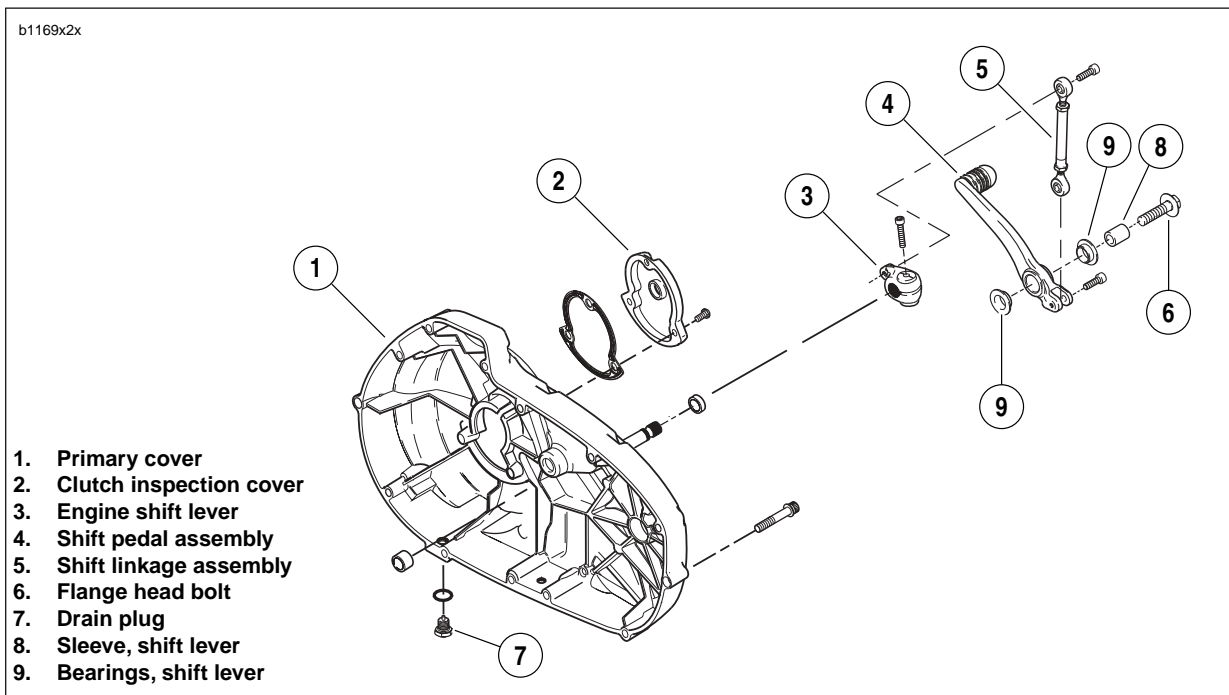
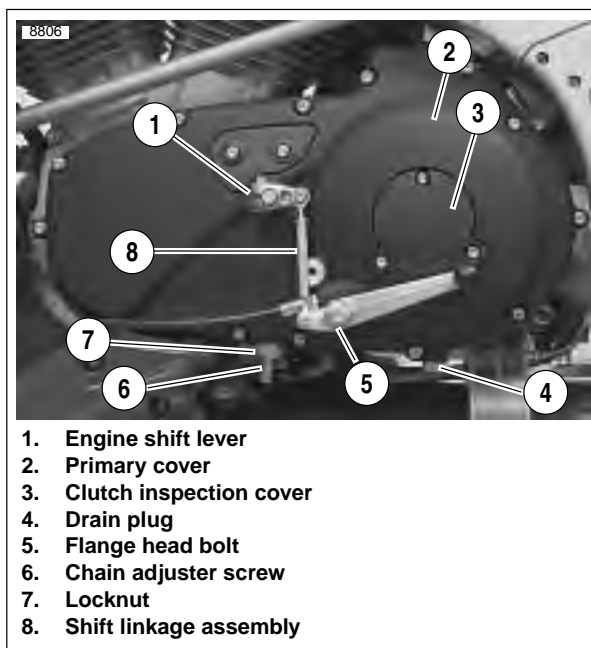

Figure 2-96. Primary Cover and Shifter Assembly
Figure 2-99. Installing Shift Linkage
13. See Figure 2-96. Remove clutch inspection cover (2).
4. See Figure 2-99. Install rubber washer and engine shift lever assembly (1).
5. See Figure 2-96. Install (9) bearings and (8) sleeve into the shift lever.
6. After applying LOCTITE 271 (red), install flange bolt (5) and shift pedal to primary cover, and tighten to 22-24 ft-lbs (30-32.5Nm).
8. See Figure 2-99. If the shift linkage assembly (8) was removed for any reason, apply Loctite 271 to fasteners and tighten to 36-60 **in-lbs** (4-6.8 Nm). Adjust to rider comfort.
14. See Figure 2-96. Install clutch inspection cover (4) with three TORX screws with washers. Tighten screws in a crosswise pattern to 84-108 **in-lbs** (9.5-12.2 Nm).